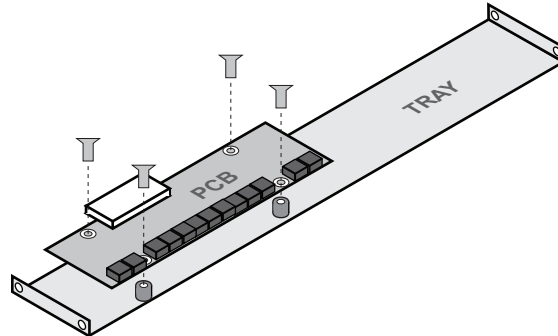

Figure 49 Installing the Breakout PCB on the Rack Tray
1. Position the Breakout PCB atop the screw posts on the tray. Refer to **Figure 49**.